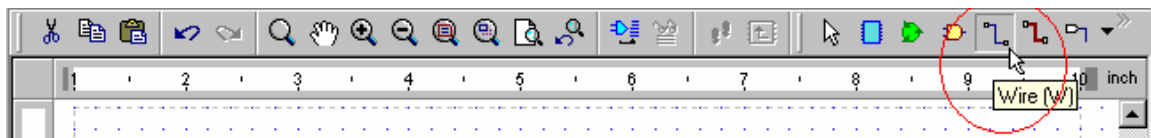

Figure 18
1. Click on the Wire icon in the toolbar (see Figure 18).